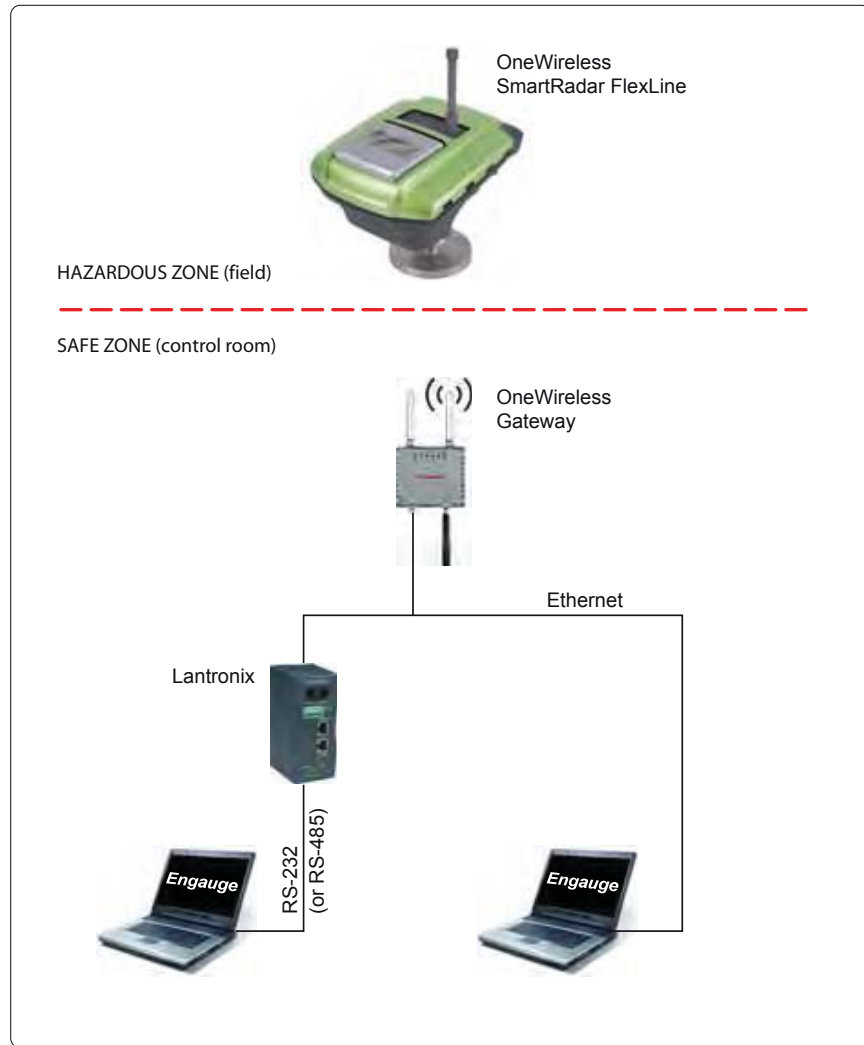

FIGURE 4-18
4.2.1.2 OneWireless Situation (FIGURE 4-18)